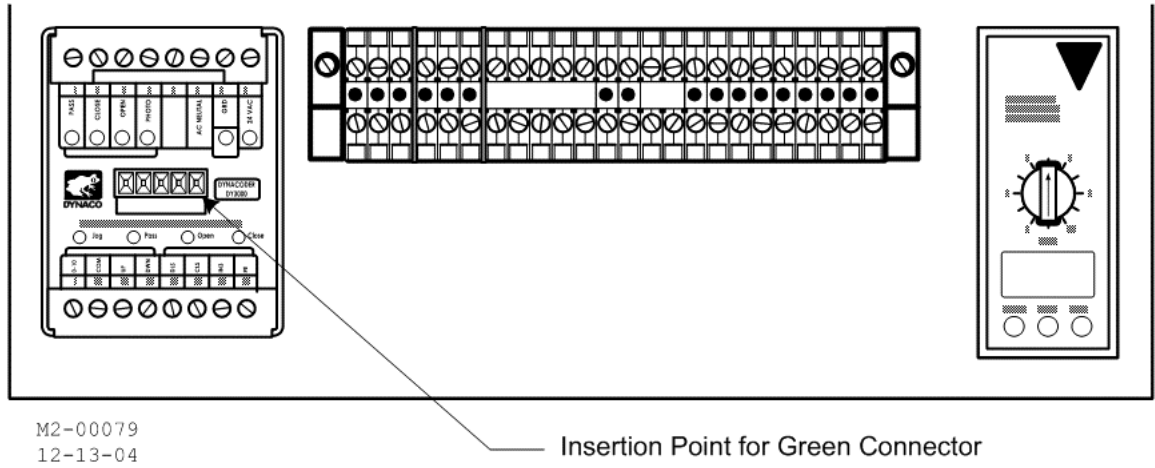

Figure 3-8: Insertion Point for Green Connector
2. Insert the green connector into the Dynacoder (DY3000) . See Figure 3-8.